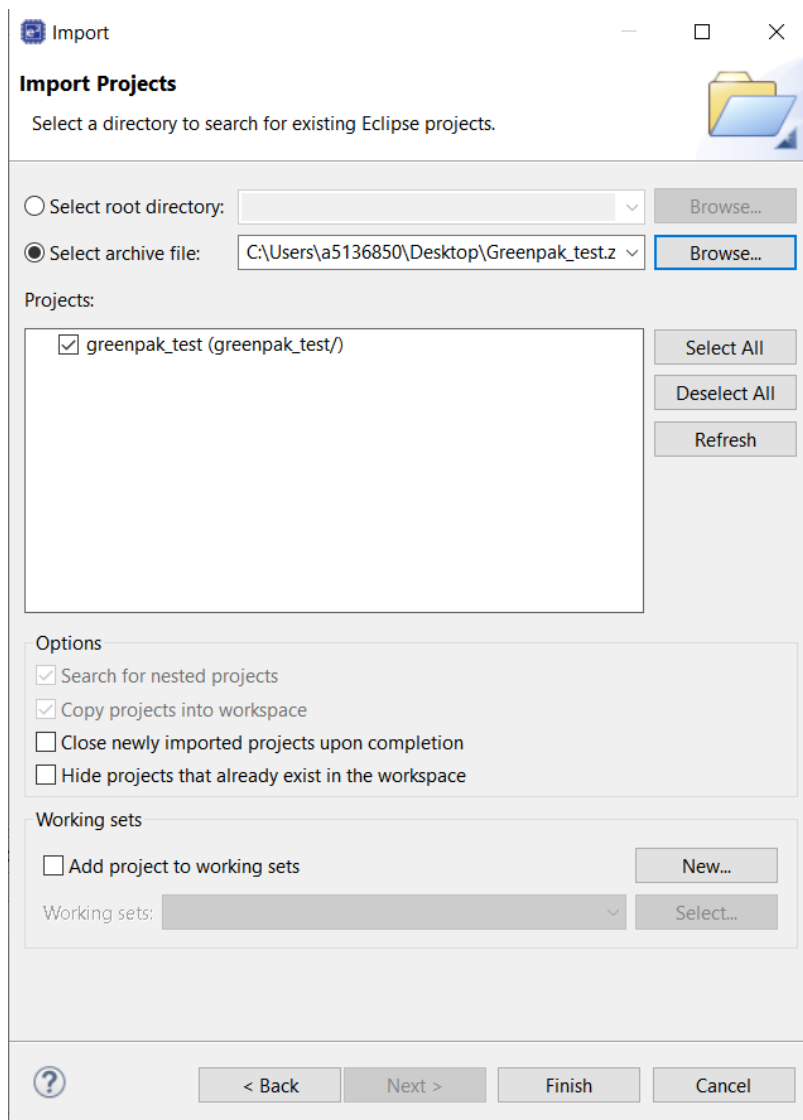

Figure 4. Import Projects Window
2. Select **File** → **Import** → **General** → **Existing project into workspace**. Click on the radio button *Select archive file*. Click on *Browse* to locate the **.zip** file (see Figure 4).